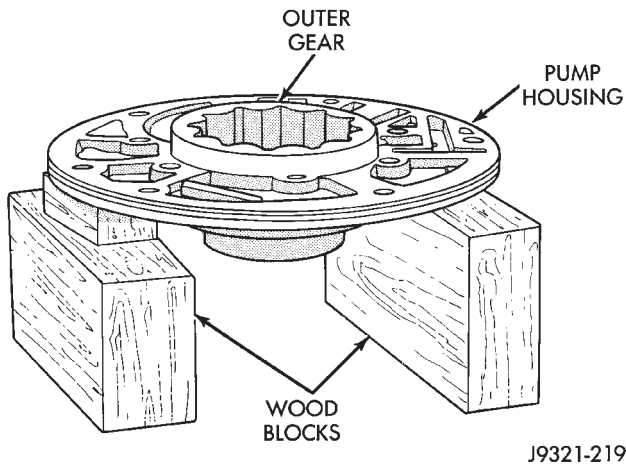

Fig. 154 Supporting Pump And Installing Outer Gear
(1) Lubricate gear bore in pump housing with transmission fluid.
(2) Lubricate pump gears with transmission fluid.
(3) Support pump housing on wood blocks (Fig. 154).
(4) Install outer gear in pump housing (Fig. 154). Gear can be installed either way (it is not a one-way fit).